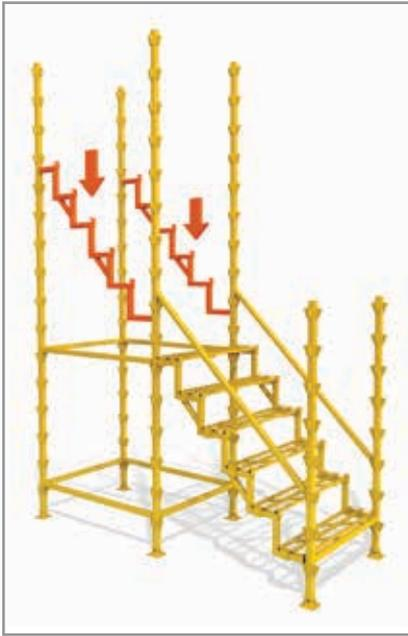

Figure 4.9.2
4.9 Add the next stringers on by inserting into the next spigot up from where the previous stringer finished - 250mm up from last stair. Fit 2 more legs which have been joined by a leg joining spigot (Figure 4.9.1) and attach the top of this stringer to the appropriate spigot on the leg (Figure 4.9.2 - Overleaf)